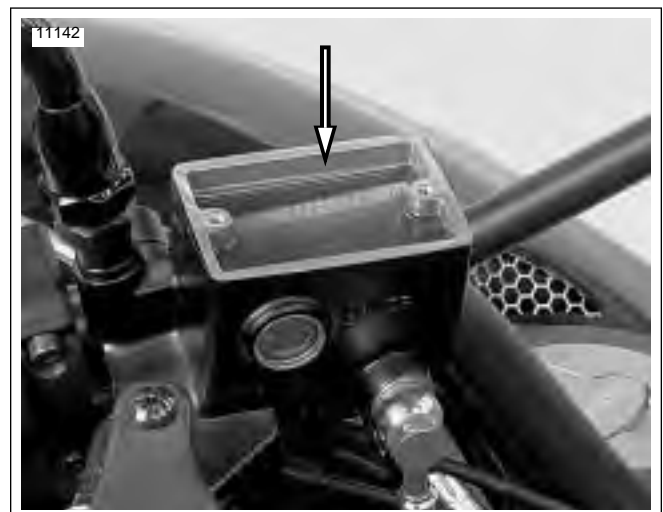

Figure 1-11. Reservoir Fluid Level Indicator
- a. See Figure 1-11. With motorcycle upright, add **D.O.T. 4 BRAKE FLUID** to master cylinder reservoir until the level matches level indicator in reservoir.